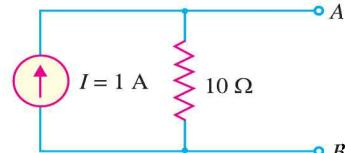

Fig. 1.17
- (iii) The equivalent current source is a source of 1 A in parallel with a resistance of 10Ω as shown in Fig. 1.17.